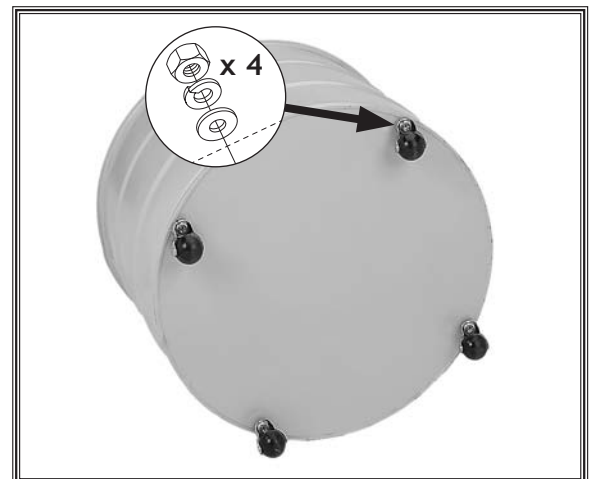

Figure 21. Collection drum casters installed.
17. Attach the four 2" casters to the bottom collection drum with (4) $\frac{3}{8}$ "-16 hex nuts, (4) $\frac{3}{8}$ " lock washers, and (4) $\frac{3}{8}$ " flat washers (see **Figure 21**).